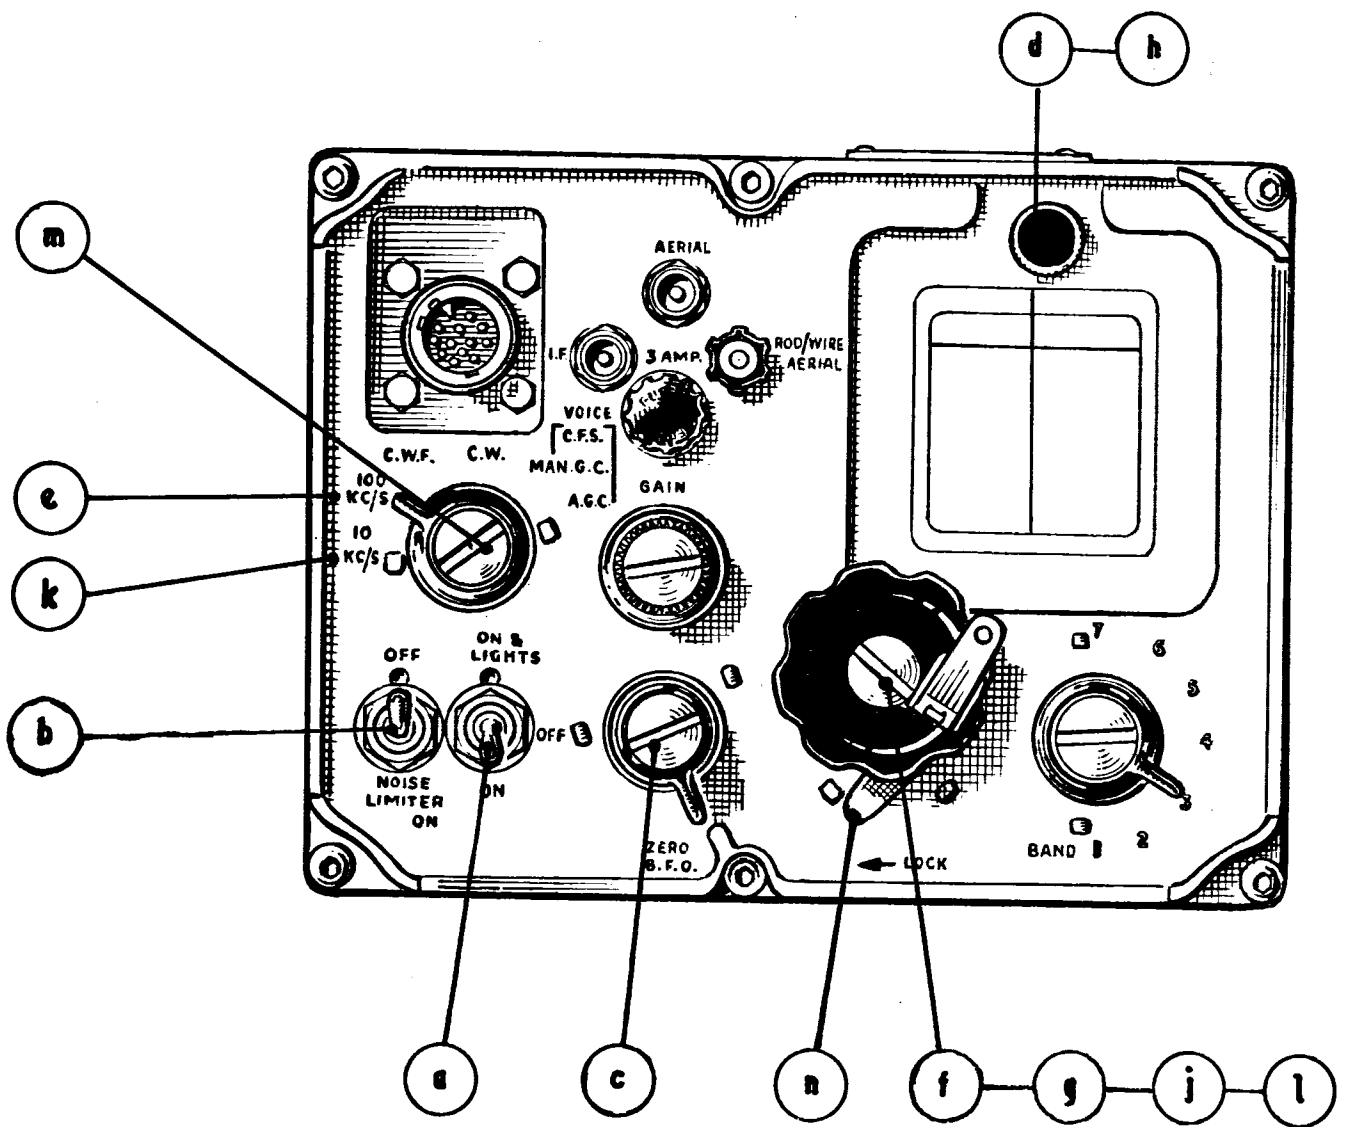

FIG. 20 SEQUENCE OF OPERATIONS TO TUNE ACCURATELY TO A GIVEN SIGNAL
(2) To Tune Receiver Accurately to a Given Frequency (Fig. 20)